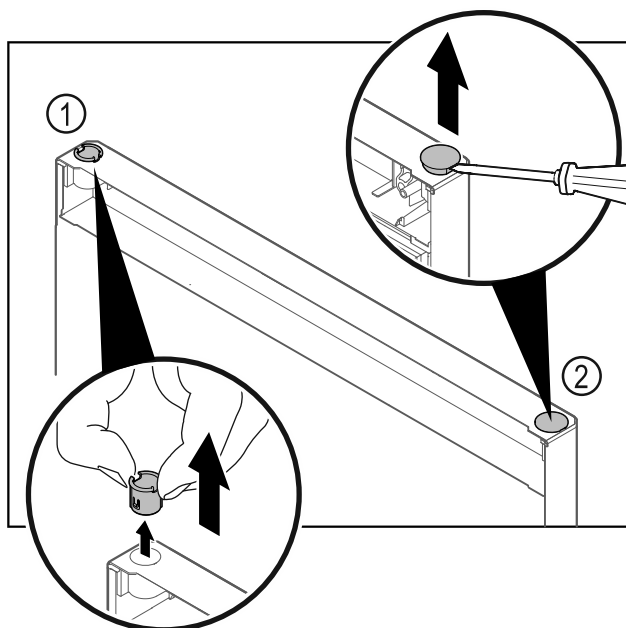

Fig. 26 Fridge compartment door
- ▶ Pull out the hinge bushing Fig. 26 (1) with your fingers.
- ▶ Carefully lift the cover plug Fig. 26 (2) with a slotted screwdriver and pull it out.